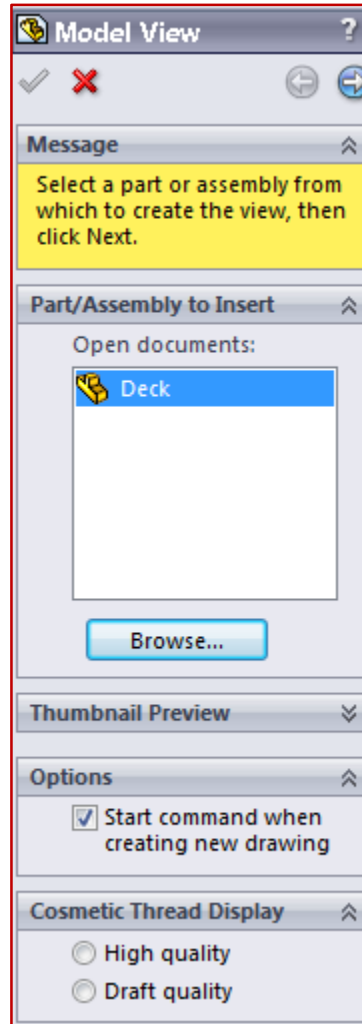

Figure 12.6 – Insert→Drawing View→Model Property Manager
- ✓ Double-click the box with the **TOLERANCES** shown on figure 12.6. Now you can make changes. We will add the tolerances for machining and bending in degrees.
- ✓ See Figure 12.6.